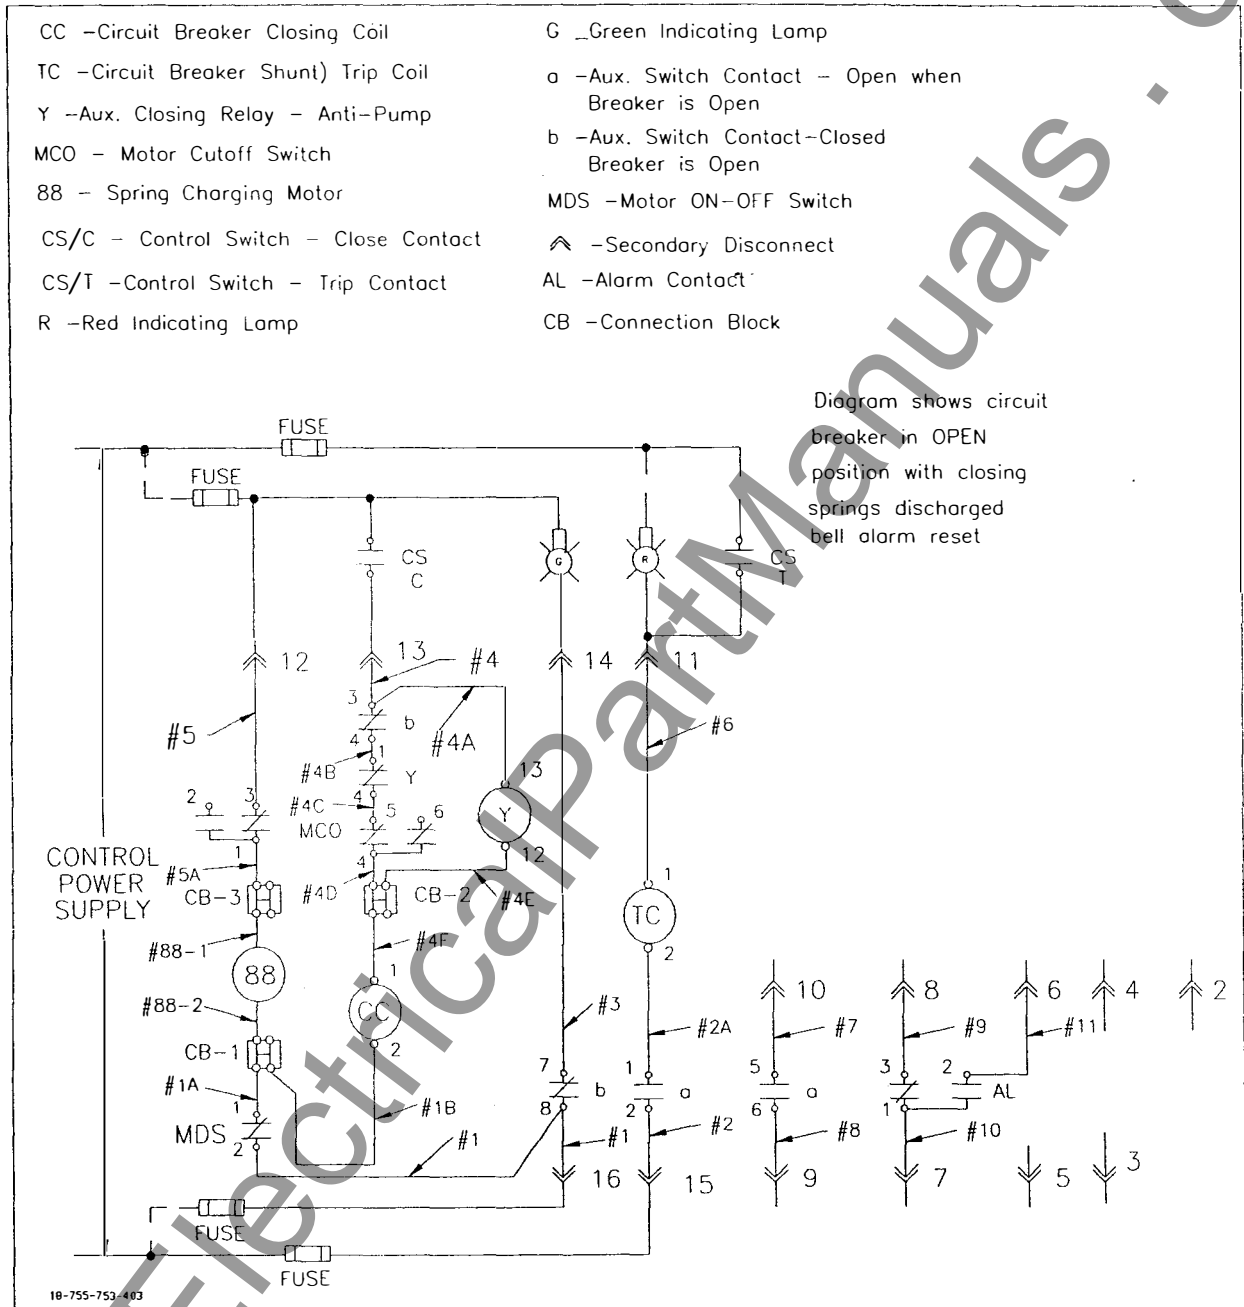

FIGURE 3. Typical Schematic of Electrically Operated Circuit Breakers.
Tripping	Push in manual trip rod (94) OR If shunt trip is provided, operate external Control switch (CS/T) to trip or open Breaker. (See Figure 3.)